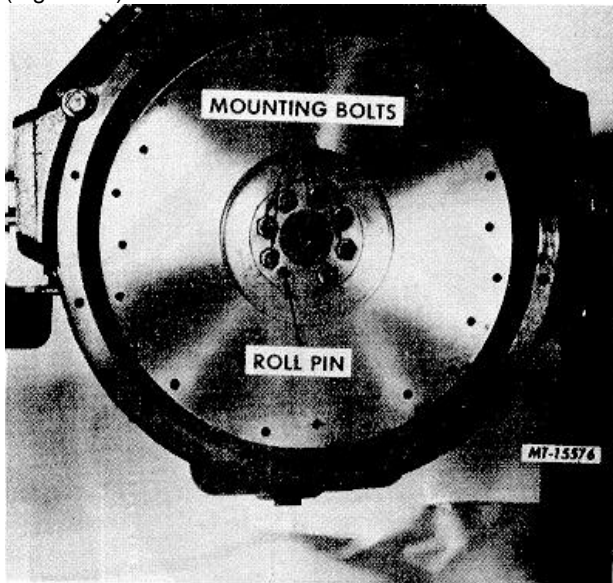

Fig. 50 Flywheel Mounting Details
42. Loosen flywheel mounting bolts and remove the flywheel assembly and roll pin from the crankshaft flange (Figure 50).